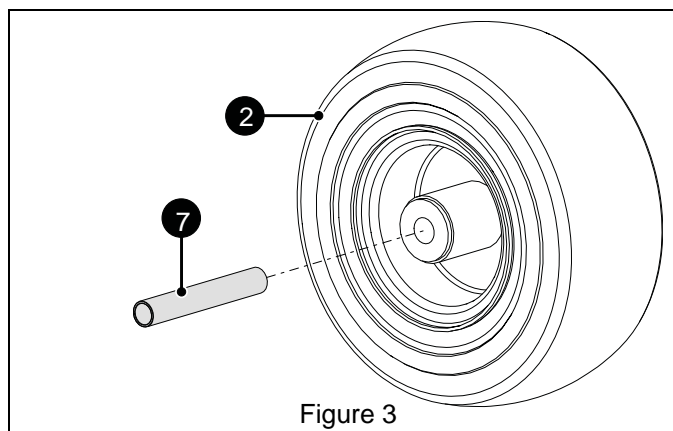

Figure 3
2. Install caster tube (item 7) in wheel assembly (item 2). See Figure 3.